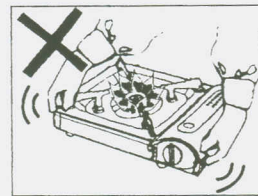

Fig.26
2. Do not carry the unit while burning. It can be very dangerous if dropped. (Fig. 26)